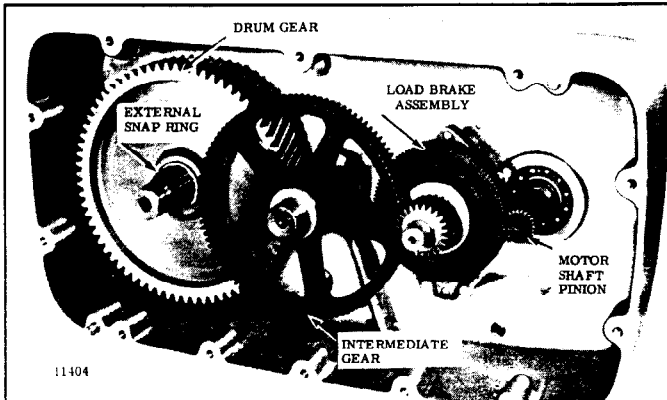

Figure 5-3. View of Gearcase — Cover Removed.
- a. The mechanical load brake and gearing may be inspected and serviced with hoist suspended. To do so, remove lower block and wire rope, drain oil from gearcase, remove 12 hex head bolts and lockwashers holding gearcase cover, and pull cover from gearcase (Figure 5-3).